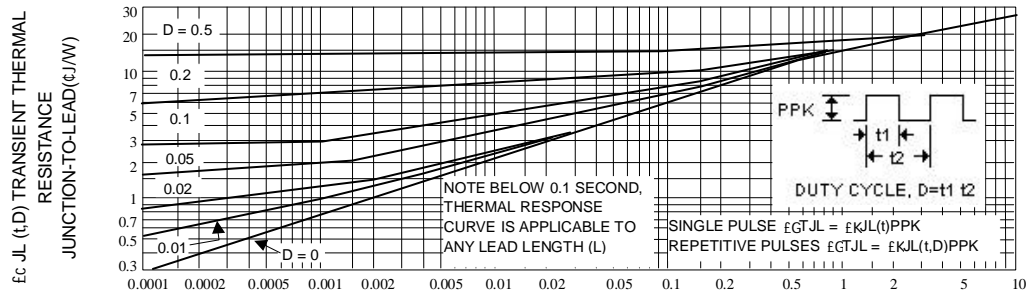
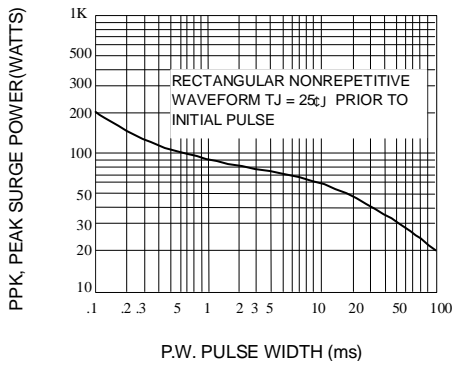
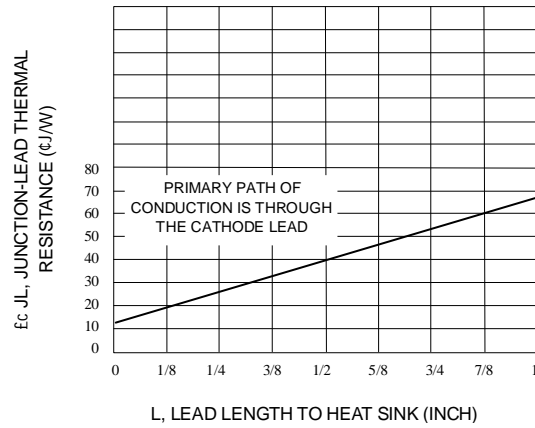

Fig. 2-TYPICAL THERMAL RESPONSE L,
Fig. 3-MAXIMUM SURGE POWER
Fig. 10-TYPICAL THERMAL RESISTANCE
4. SURGE CURRENT (I_R) NON-REPETITIVE - The rating listed in the electrical characteristics table is maximum peak, non-repetitive, reverse surge current of 1/2 square wave or equivalent sine wave pulse of 1/120 second duration superimposed on the test current, I_{ZT} , per JEDEC standards, however, actual device capability is as described in Figure 3.
$\theta_{GT_{JL}}$ is the increase in junction temperature above the lead temperature and may be found from Figure 2 for a train of power pulses or from Figure 10 for dc power.
Data of Figure 2 should not be used to compute surge capability. Surge limitations are given in Figure 3. They are lower than would be expected by considering only junction temperature, as current crowding effects cause temperatures to be extremely high in small spots resulting in device degradation should the limits of Figure 3 be exceeded.